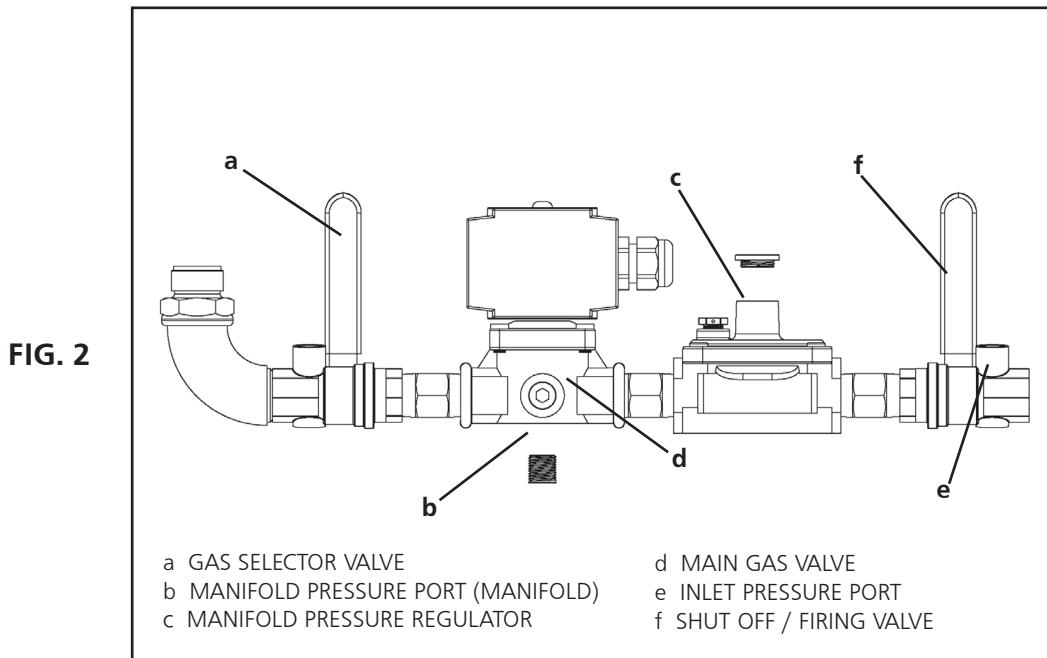

FIG. 2
The heater is supplied after a complete functional test and it's therefore prearranged for one of the gas (natural or L.P.G.) indicated in Tab. I: an adhesive label applied on the gas selector valve (13) in Fig 2) indicates the working gas (usually it's natural gas). Should it be necessary to change the kind of gas (from natural gas to L.P.G or vice-versa) follow the detailed instructions indicated in section "CHANGING TYPE OF GAS".
- Connect a manometer to the pressure port (e) Fig. 2) ,
- Carry out the pressure reading on the manometer and turn the pressure regulator (c) Fig. 2) if necessary to obtain the correct burner pressure value indicated in Tab. I